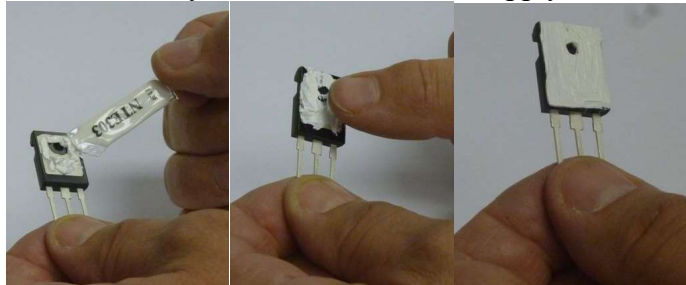
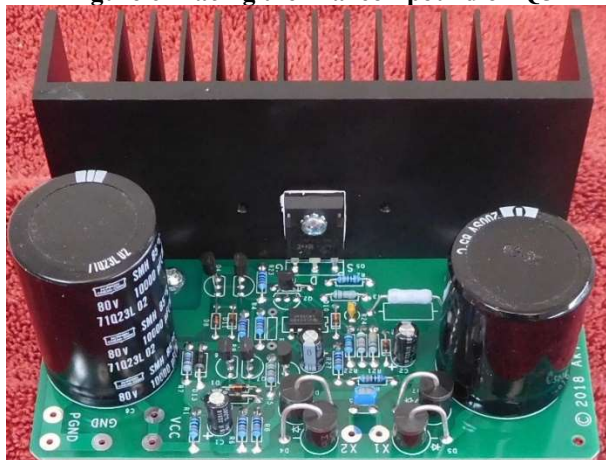

Figure 6-Placing thermal compound on Q5
Figure 7-Installing Q5 on the heatsink and to the PCB
3. Place a thin film of thermal compound on the metal tab surface of Q5 as shown in Figure 6. Inset Q5 into the circuit board as shown in Figure 7. Secure it in place with a #6-32x1/2" screw, just finger tight for now. The side with the thermal compound must attach to the heat sink.